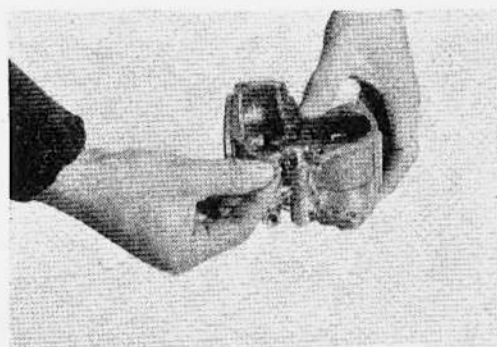

Figure 133
- (4) Tighten pump jet, and then pump jet passage screw (Fig. 133).